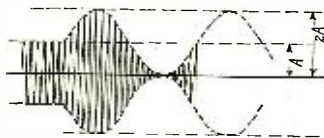

FIG. 15.
*Antenna Current.* One of the most important criteria of operation of the constant current type of telephone circuit is the behavior of the antenna ammeter when talking. It is now generally understood that when the constant current system of modulation is used and is operating properly the antenna current alternately increases and decreases about the average steady value obtained when there is no speech impressed upon the modulator. For 100 per cent modulation the current first reaches double its normal value and then falls to zero. Under such circumstances one's first impression might be that the antenna ammeter should read the same regardless of whether talking were going on or not. (See Fig. 15.) As a matter of fact, however, since the ammeter reads the effective (R. M. S.) current, it should go up when the microphone is spoken into, because the effective value of the modulated wave is greater than that of the unmodulated one. If the modulation is 100 per cent upward and downward and is sinusoidal the antenna ammeter reading should increase 22½ per cent. For other percentages of sine modulation the percent increase in antenna current is given in the following table: